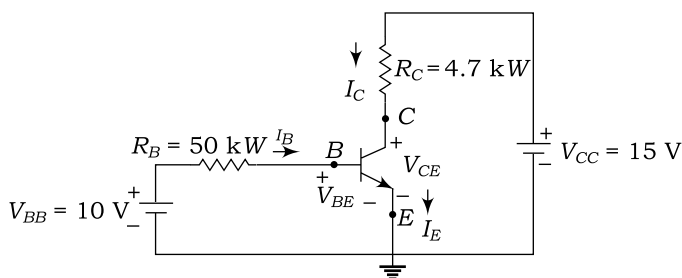

Fig. 2.113
40. A transistor amplifier circuit is shown in Fig. 2.113. Draw the dc load line and locate the Q -point on the dc load line. Assume $V_{BE} = 0.65 \text{ V}$ and $\beta = 55$.